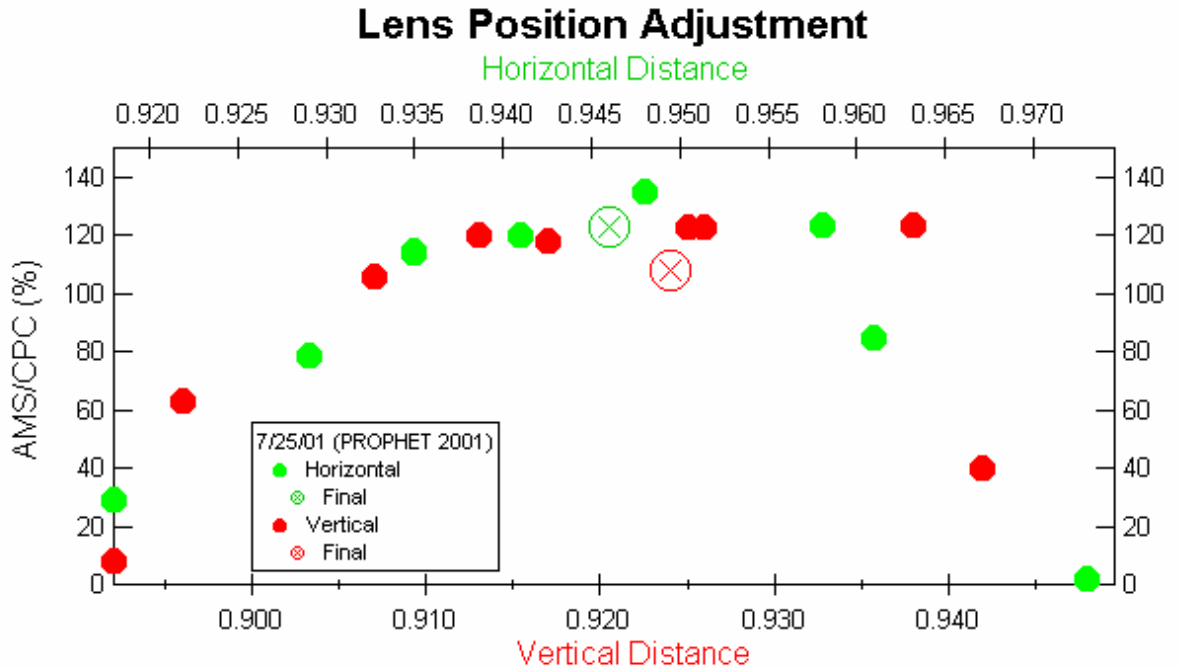

Figure 23: Lens Position Adjustment
- Adjust the setscrews that hold the lens in place and move the lens, either horizontally or vertically, to center it (See next instruction). Refer to Figure 23.
- Again, find the best position and double-check the AMS performance (See Figure 23, page 63).